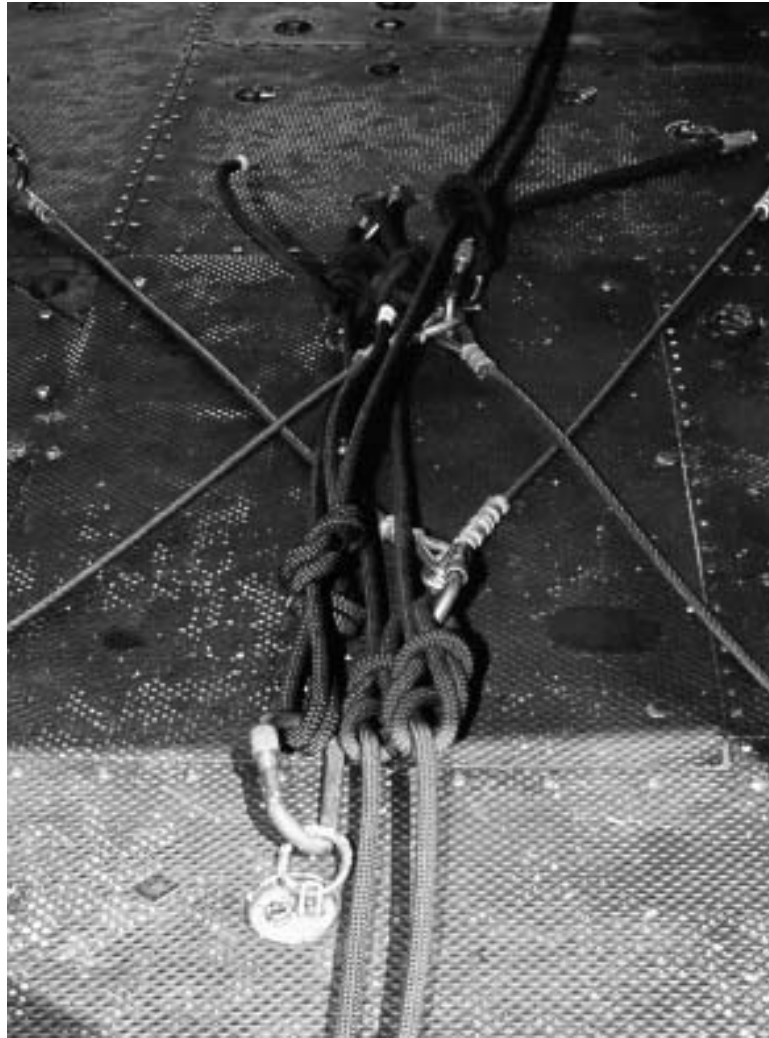

Figure 4-5. UH1-N Rappel Anchor Points
Installation (Figure 4-5):
(2) The steel cables (two per side of aircraft) shall be attached to the cargo tie down rings by one locking carabiner. Secure the rappel ropes to the loose ends of each steel cable by tying a directional 8 knot approximately six feet from the standing end of the rappel ropes. This directional 8 knot is attached to the steel cable eyelet's utilizing one locking carabiner. To establish safety anchor points, tie a loop 8 knot at the standing end of each rappel rope. Attach these loop 8 knots to secondary fittings 38 (right side) or fitting 37 (left side) utilizing one locking carabiner (Figure 4-5). NOTE: The length of rope is adjustable depending on mission requirements.
(3) The edge of the UH-1N cabin floor shall be adequately padded and taped to prevent cable and rope chaffing.